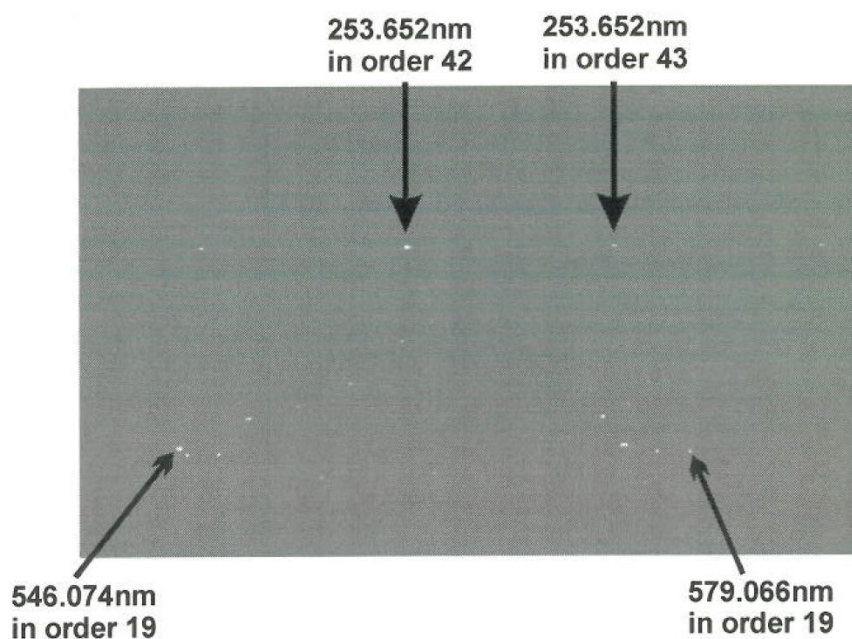

Figure 20. Pixel locations and their corresponding wavelengths for calibration.
- Follow the calibration instructions in the KestralSpec for Windows Software manual to select the correct pixel locations (see pages 59–60; Figures 20 and 21 below)